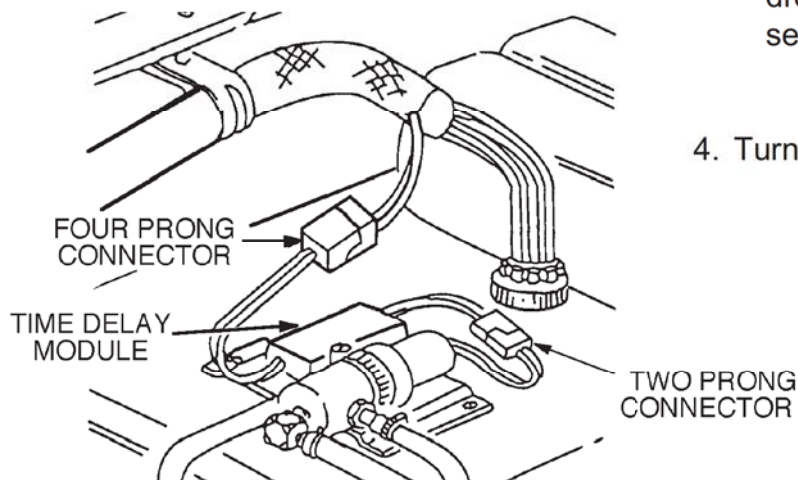

Figure 13-7. Time Delay Module Connector Testing.
**b. On-Vehicle Testing (Figure 13-7)**